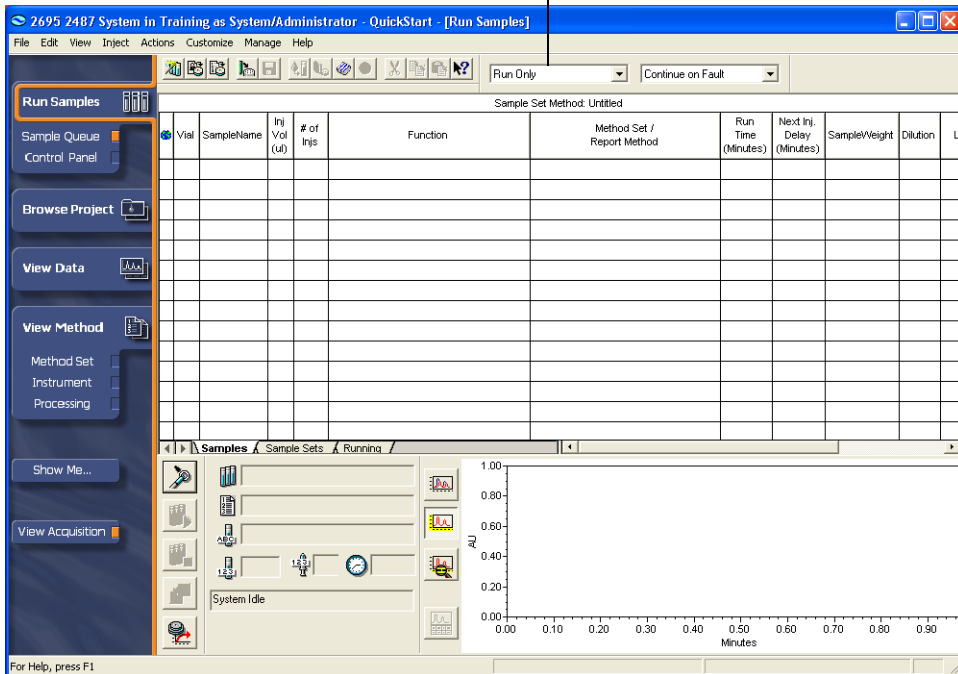

Figure 4-12 Run Samples–Samples Tab
1. Click **Run Samples** on the navigation bar. The Run Samples window appears (Figure 4-12).